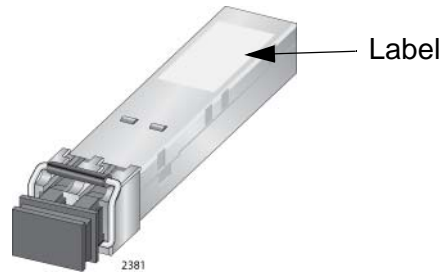

Figure 90. Labels on SFP and CSFP Transceivers
3. To install an SFP or a CSFP transceiver in a slot on the top row of the line card, orient it with the label on top, as shown in Figure 90 on page 150. To install it into a slot on the bottom row of the line card, orient it with the label on the bottom.